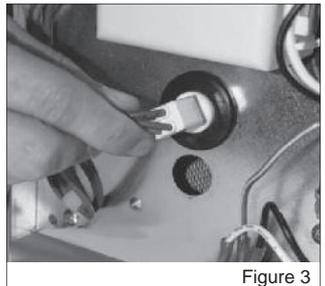

Figure 3
- G. Connect ballast to the four pins on the lamp using the connector (Figure 3).